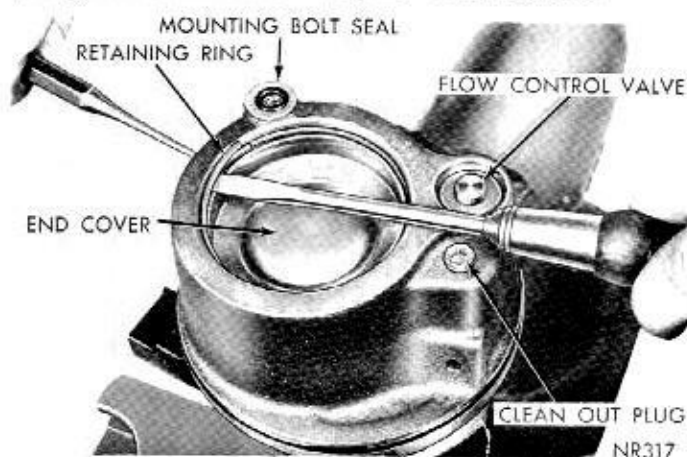

Fig. 25—Removing End Cover Retaining Ring
around until one end of ring lines up with hole in pump body. Insert punch in hole far enough to disengage ring from groove in pump bore. Remove ring from body (Fig. 25).
- (1) Remove clean out plug with allen wrench (Fig. 25).
- (2) Wash all parts in clean solvent, blow out all passages with compressed air and air dry all cleaned parts.
- (3) Inspect drive shaft for excessive wear and seal area for nicks or scoring. Replace if necessary.
- (4) Inspect end plates, rollers, rotor and cam ring for nicks, burrs, or scratches. If any of the components are damaged to a degree that the efficiency of the pump is affected it is recommended that all the interior parts be replaced.
- (5) Inspect pump body drive shaft bushing for excessive wear. Replace pump with pump partial assembly if badly worn or scored. Pump partial assembly